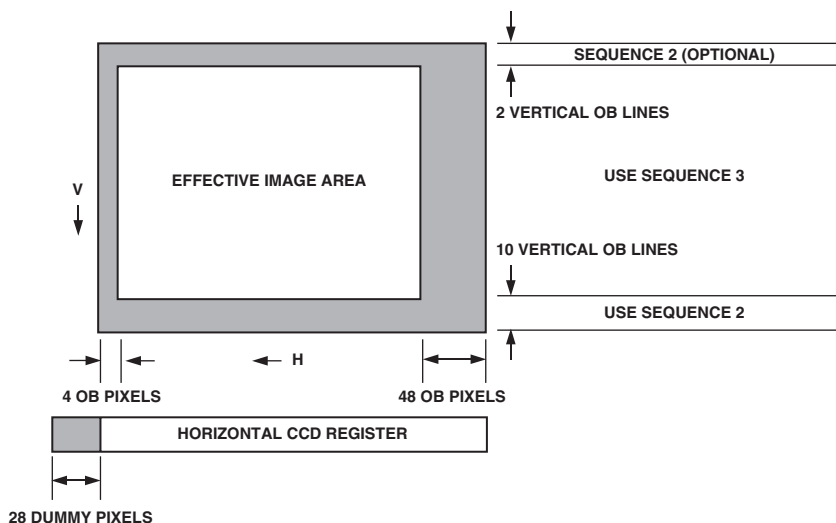

Figure 54. Sample CCD Configuration
Figure 54 shows a sample CCD layout. The horizontal register contains 28 dummy pixels, which will occur on each line clocked from the CCD. In the vertical direction, there are 10 optical black (OB) lines at the front of the readout and two at the back. The horizontal direction has four OB pixels in the front and 48 in the back.